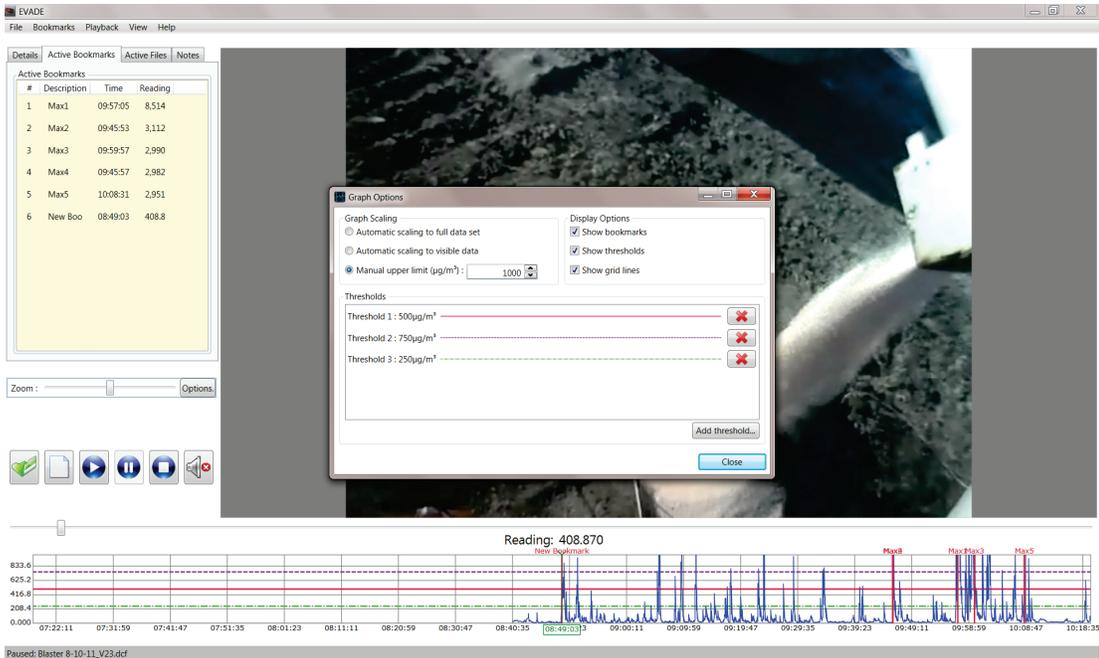

Figure 47. The Graph Options dialog box showing additional thresholds added to the graph.
6. Creating multiple thresholds. The user can also create additional thresholds which will be all displayed concurrently (Figure 47). There is no limit to the number of thresholds that can be created.
7. Deleting thresholds. The user can delete any or all of the thresholds by clicking on the red **X** button next to the threshold to be deleted (Figure 47). It should be noted that any thresholds created will remain active in other EVADE analyses, both when opening new dust cam files (*dcf*) or creating new analyses, until they are actually deleted.